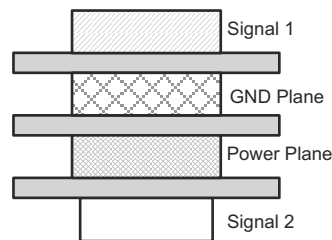

图 8-3. Four-Layer Board Stack-Up
8. Due to high frequencies associated with the USB, a printed circuit board with at least four layers is recommended; two signal layers separated by a ground and power layer as shown in 图 8-3.